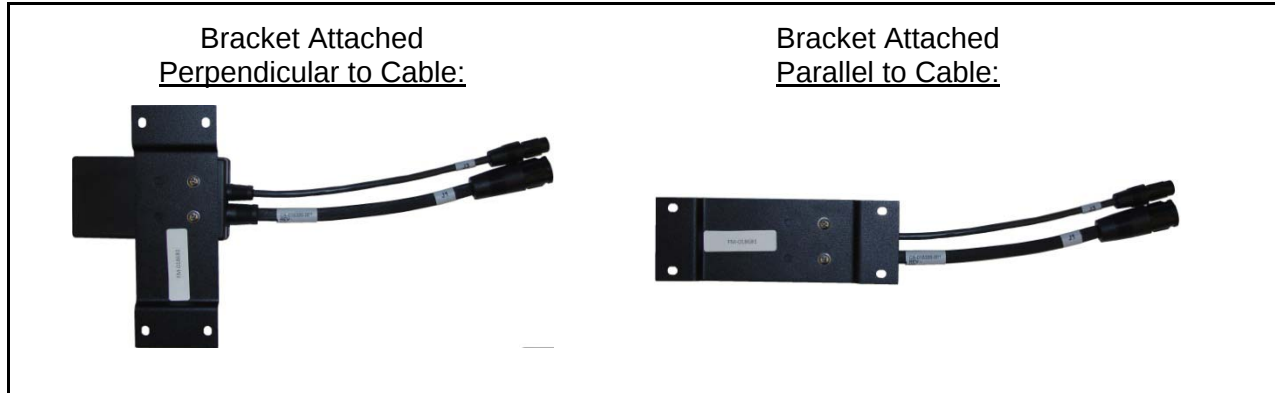

Figure 9-14: HHC-731 Interface Cable Mounting Bracket-to-Cable Positioning
1. Attach the bracket to the large end of the cable using the two #6-32 machine screws and flatwashers included in the bracket kit. As illustrated in Figure 9-14, the two can be attached either perpendicular or parallel to each other. The “wings” of the bracket should be positioned away from the cable. Only two of four center-most holes in the bracket are used.
2. Tighten the two (2) screws securely with a #1 Phillips screwdriver. Do not over-tighten.